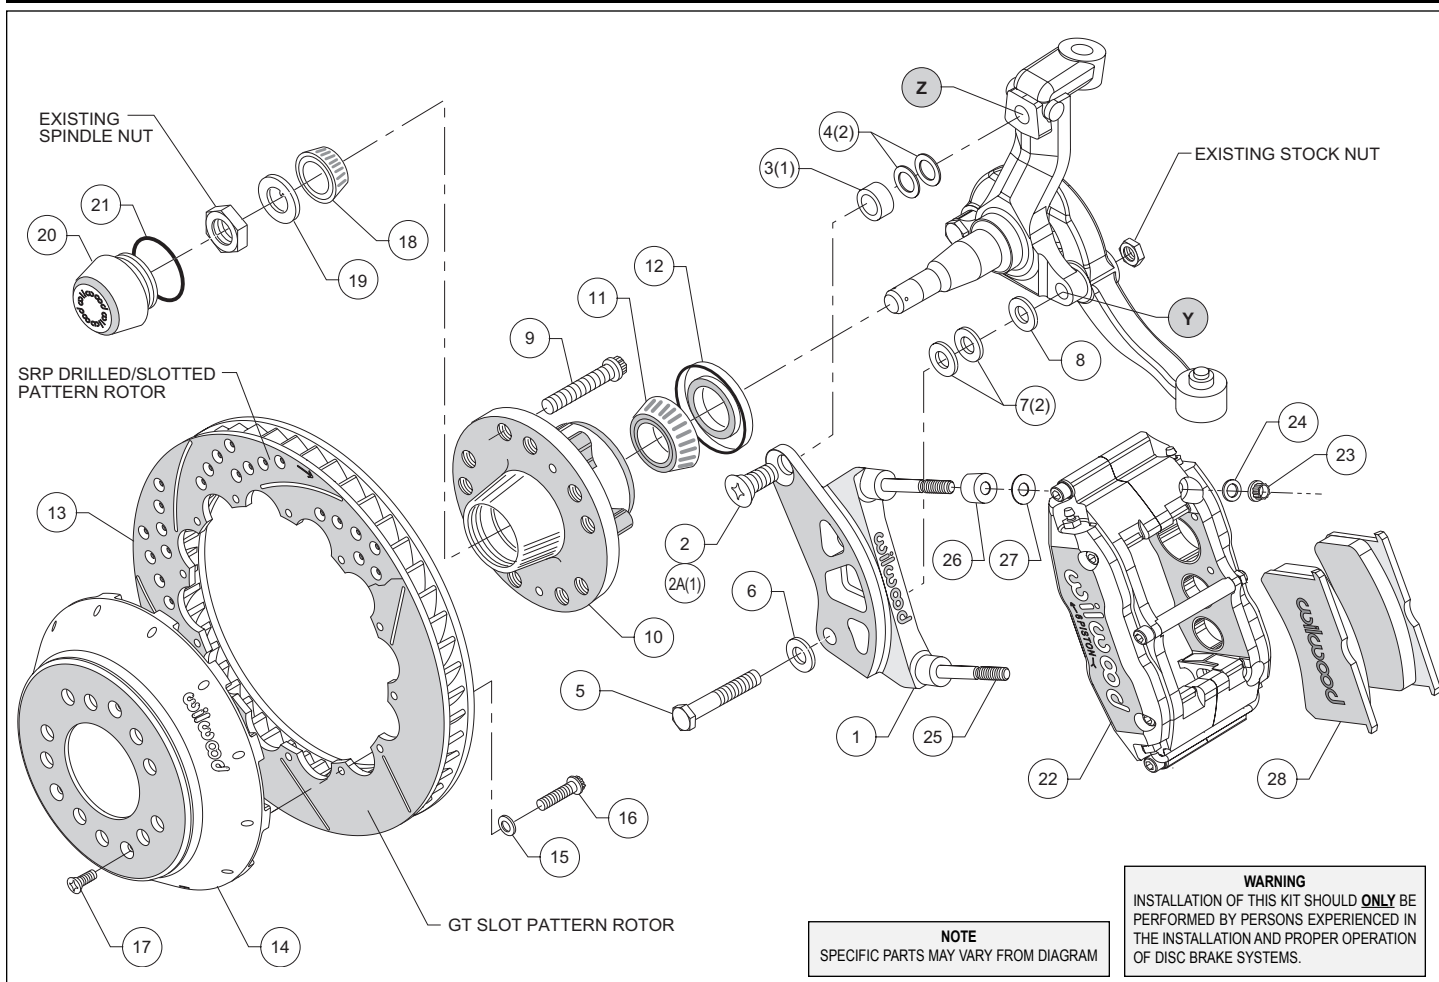
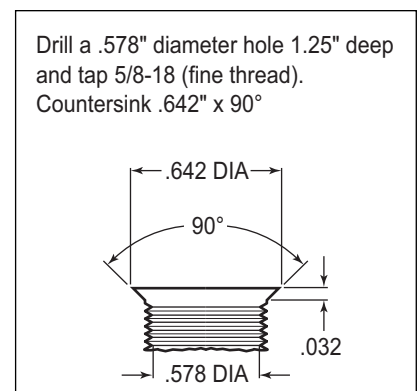

Figure 1. Typical Installation Configuration
Figure 3. Drill and Tap Detail
**•NOTE:** 1964-66 spindles may require the following modifications (reference figure 1 and 3): Top anchor pin hole (Z) must be drilled and tapped to the dimensions as outlined in figure 3. Bottom rear steering arm bolt hole (Y) in the spindle and steering arm must be enlarged to .50" by drilling. A 1/2-20 backing nut (not supplied in kit) will need to be acquired to torque bracket / steering arm bolt (supplied in kit).
**•Disc Application:** The caliper mount bracket assembly (1) should be installed first with clean, dry threads on the mounting bolts. Mount bracket (1) to face of dust plate mount pad of spindle using the bottom bolt (5), through washer (6) while positioning washer (7, Heidts spindle kit only) and shim washer (8) "if needed for bracket flatness" between bracket and spindle face, finger tighten only. Install the upper bolt (2A) with spacer (3) and flat washer (4, Heidts spindle kit only), ensuring flatness positioned between bracket and top hole of spindle face. Inspect for interference from casting irregularities, machining ridges, burrs, etc. If everything fits correctly, then remove the mounting bolts (2A and 5) and coat threads with red *Loctite*® 271 and reinstall. Torque bolt (2A) to 120 ft-lb. Torque bolt (5) to 77 ft-lb.